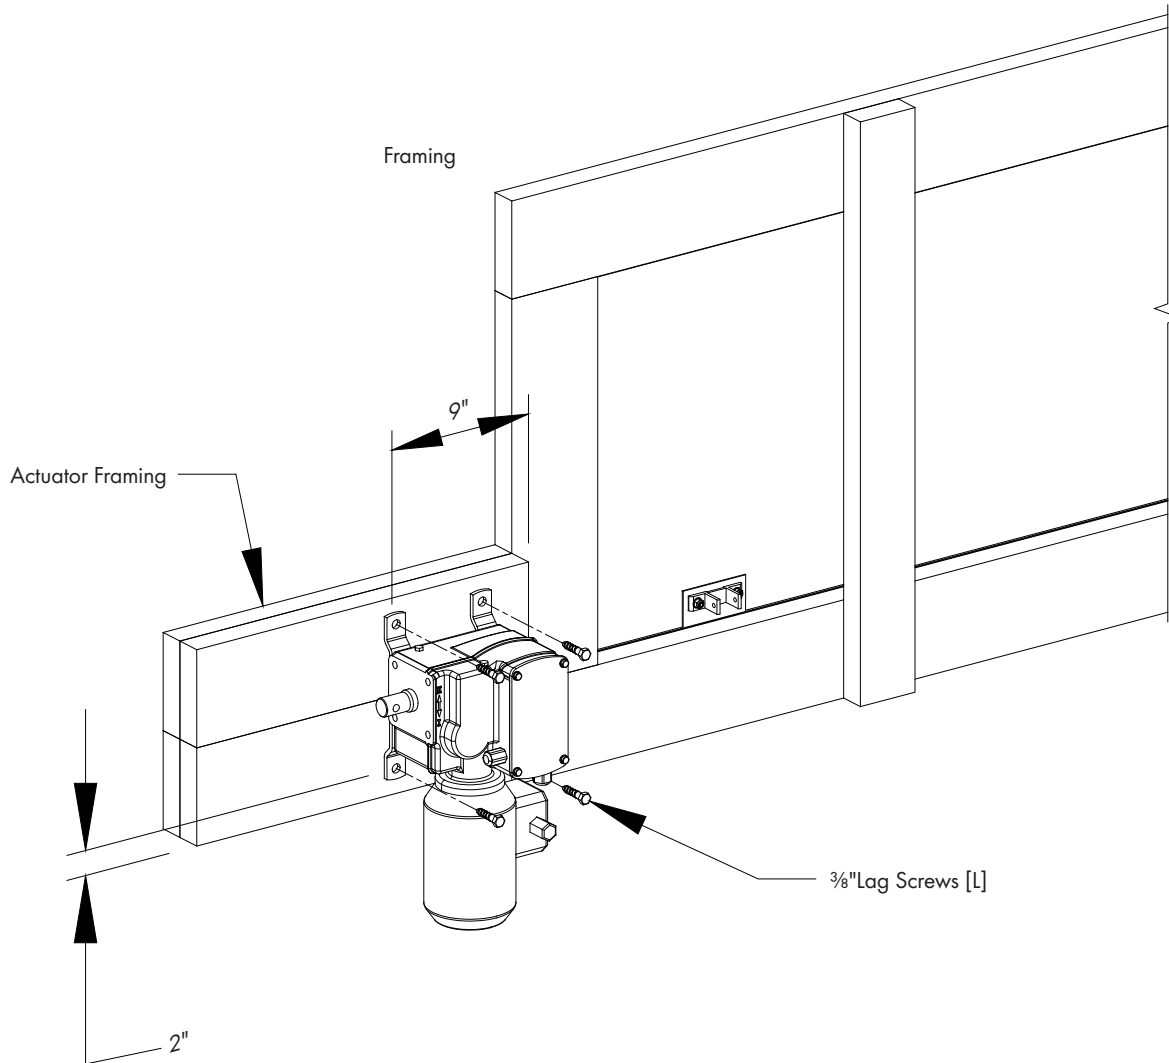

Figure 27
Attach Actuator to actuator framing using (4)  $\frac{3}{8}$ " Lag Screws [L]. See Figure 27.